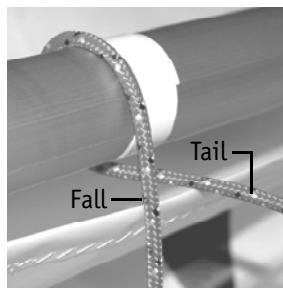

Figure: 48
5. Holding onto both ends of the halyard, lift the mast up setting the heel of the mast through the gooseneck ring. Slide the mast into the mast tube (Figure 48). **Be careful not to drop the mast into the tube for damage to the mast step will occur!**